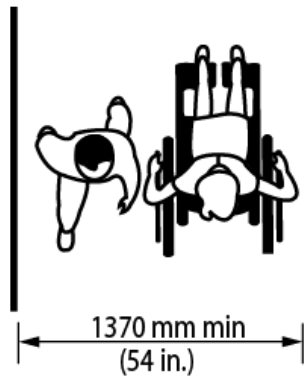

Figure 56: Secondary Accessible Path
- **Secondary accessible path:** 1370 mm (Figure 56)